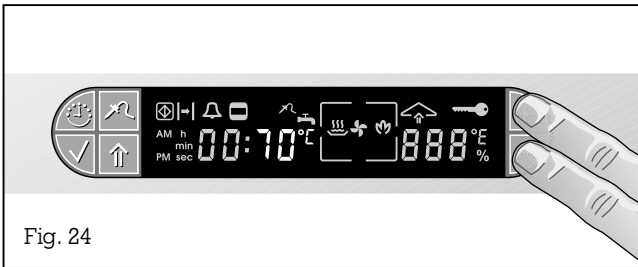

Fig. 24
- By pressing the + and - keys, you can enter a value between 1°C / 5°F and 99°C / 210°F (Fig. 24).